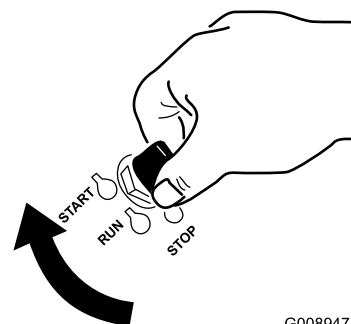

Figure 18
1. Turn the ignition key to the Start position (Figure 18).